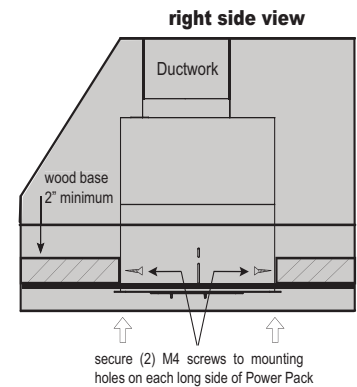

FIG 3
5. Fasten (2) M4 screws into the rear long side of Power Pack. If a liner is used the screws will go through the Power Pack mounting holes, then the liner and into the wood base. **note:** Wood blocking may need to be added to cabinet base if additional support is needed. see **FIG 3 and FIG 4**
6. Remove 4 screws from Power Pack face plate. The face plate will drop down and hang by internal chains. Access to front long side of Power Pack is now available. Fasten (2) M4 screws into the front long side of Power Pack.
7. Re-install Power Pack face plate by (4) previously removed screws.